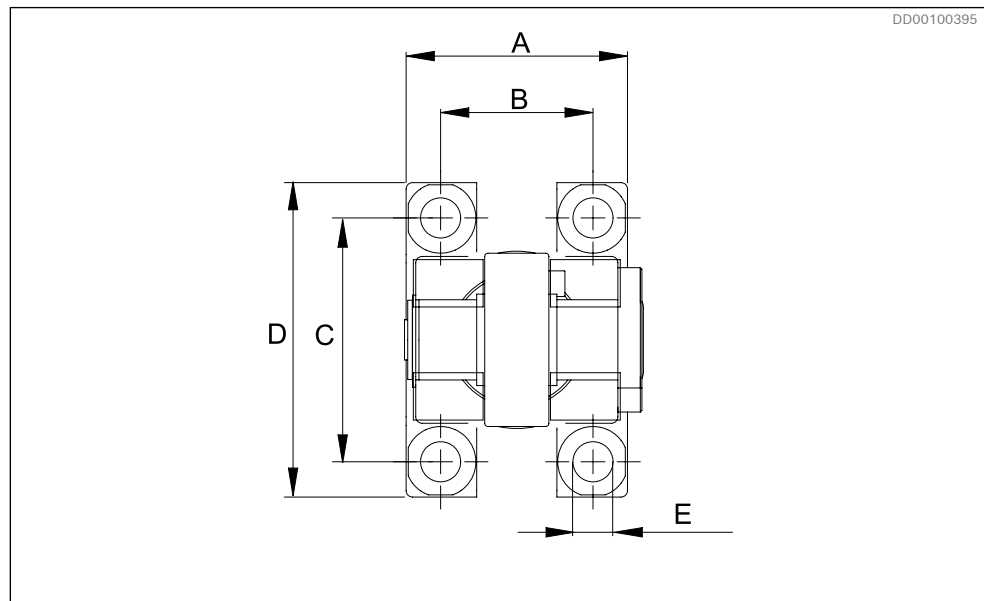

Fig. 29: Hole pattern for articulated connection and hydraulic cylinder for DTCA_ and DTCB_
- ▶ Hole pattern and dimensions for ground attachment see Fig. 29 and Table 11.